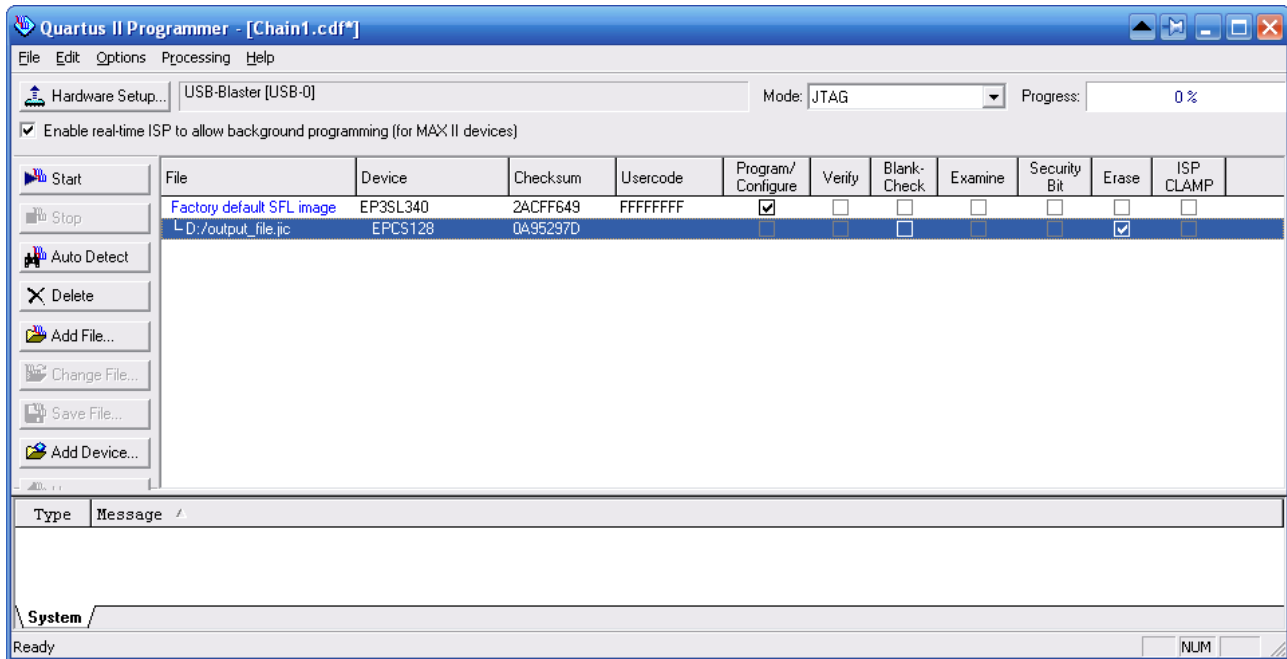

Figure C.6 Erasing setting in Quartus II programmer window
4. Erase the serial configuration device by checking the corresponding **Erase** box, a Factory default SFL image will be load (See Figure C.6).